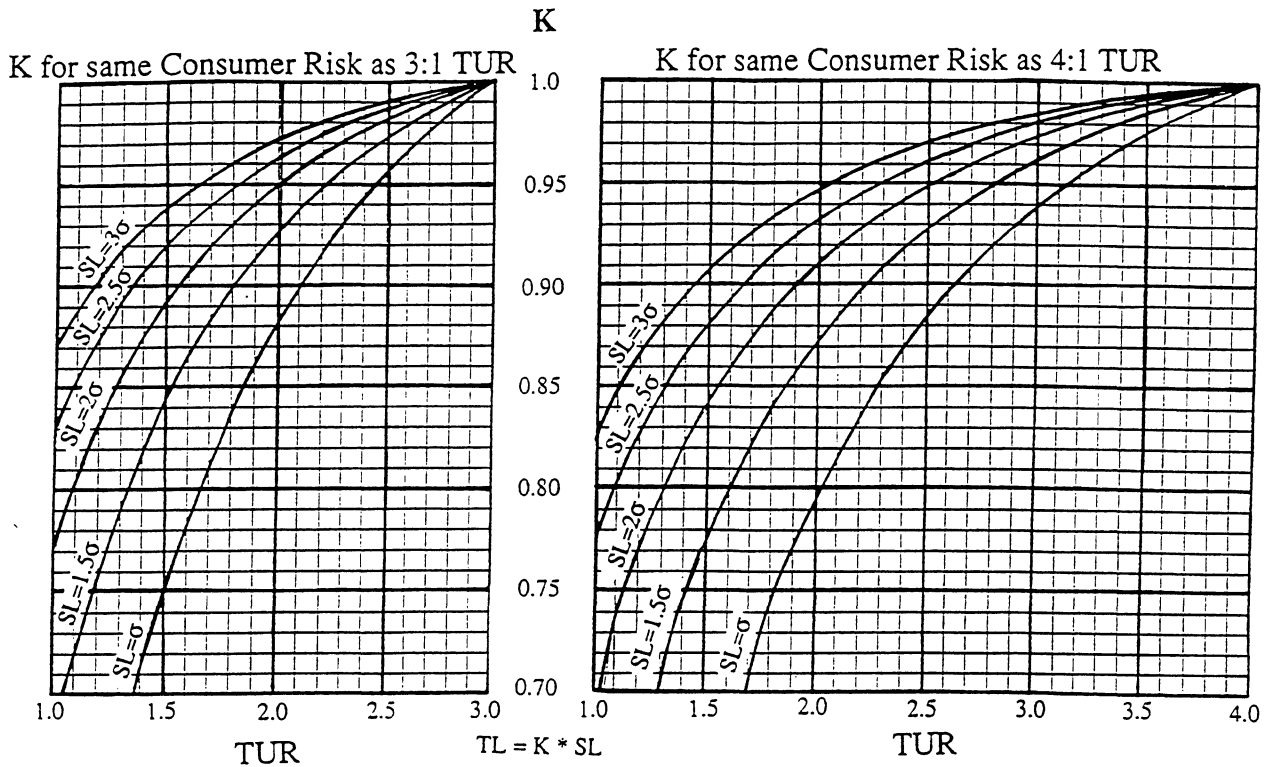

Fig. 11 Guardband Factors (K) to Maintain Consumer Risk at the Same Levels as with 3:1 and 4:1 TUR
Fig. 11 shows, on a single chart, the guardband factors (K) for consumer risk held constant at the TUR=3 level and the TUR=4 level for specification limits from 1σ to 3σ . If it is desired to hold the consumer risk constant with declining TURs, Fig. 11 provides more resolution than the curves in Appendix A. However, Fig. 11 does not show the associated risks that are in the appendix.
A Cal Lab needs to verify that a piece of test equipment is within its specification of 100 ppm. It would like to use a standard with a TUR of 4:1. However, the most accurate standard it has is specified at 50 ppm. If it is assumed both pieces of equipment are specified at an uncertainty of 2σ , this results in a TUR of only 2:1. Referring to Fig. 14 in Appendix A, it can be seen that the consumer risk for a 4:1 TUR is 0.8%. Moving left horizontally keeps the consumer risk constant at 0.8%. At a TUR of 2:1 we can interpolate to obtain a K of 0.91. Thus, setting a TL of 91 ppm will ensure that no more defective units will be accepted than with a 4:1 TUR. This result could be obtained from Fig. 11 as well.
Assume the specifications of the UUT and STD are to a 2σ confidence level. From Fig. 11, it can be seen that a $TL=0.95*SL$ should be specified. From Fig. 14, Appendix A, the confidence level being maintained can be seen to be about 99% (100% - 1% consumer risk).